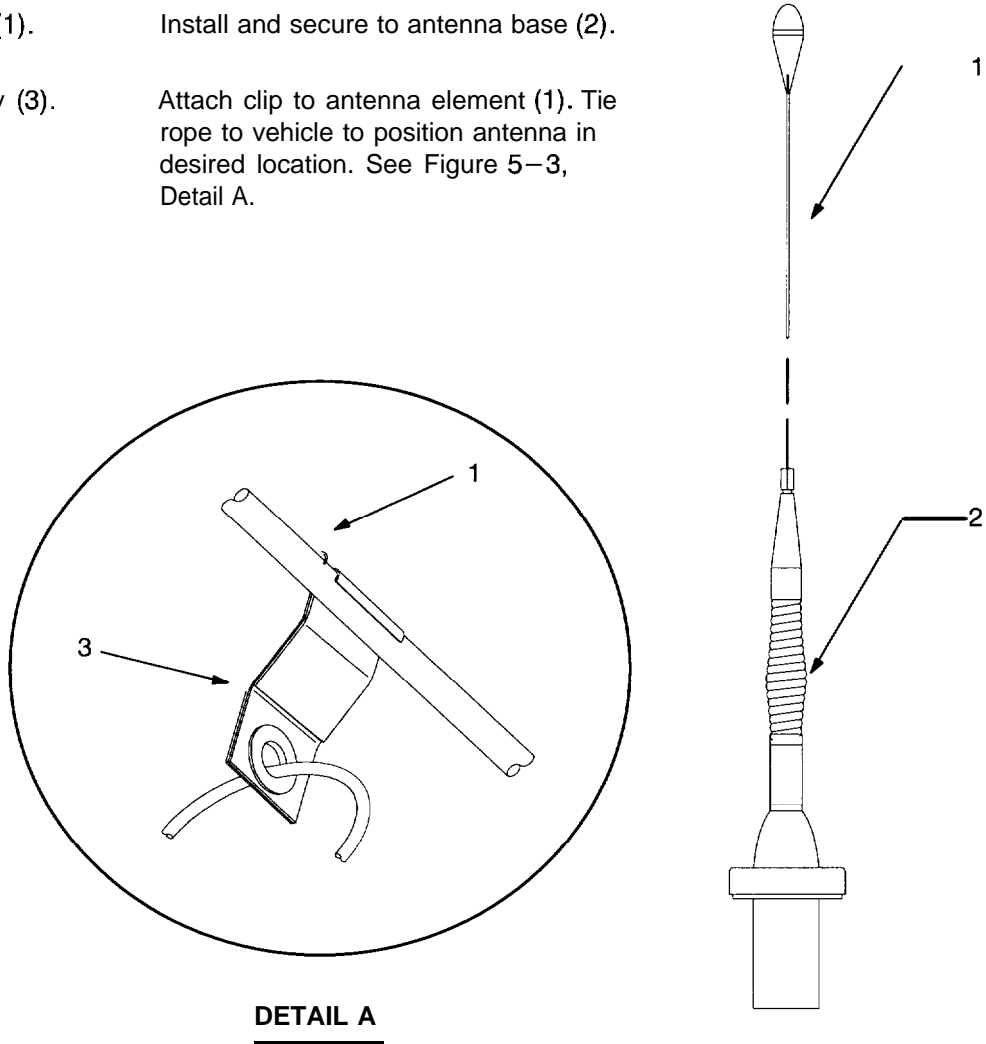

Figure 5-3. Top Antenna Assembly Installation
a. Antenna elements (1).	Install and secure to antenna base (2).
b. Wire rope assembly (3).	Attach clip to antenna element (1). Tie rope to vehicle to position antenna in desired location. See Figure 5-3, Detail A.